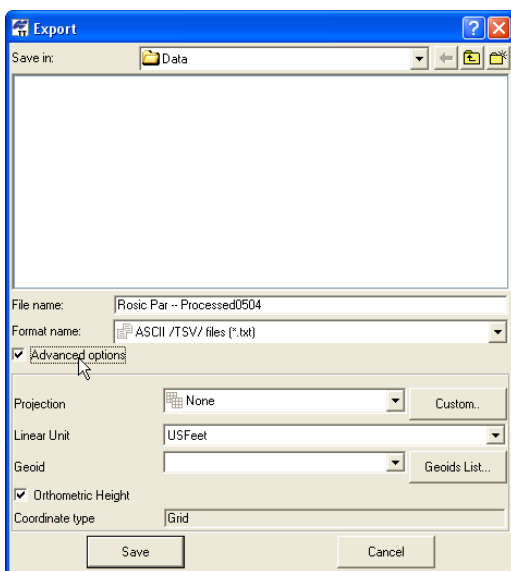

Figure 8-2. Export – Advanced Options Example
- If desired, select detailed export options in the *Advanced options* panel (Figure 8-2).